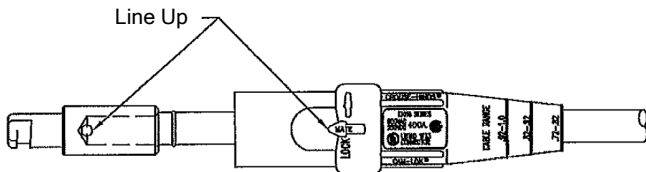

Figure 11
11. Line up the pin on the contact with the arrow on the Cam-Lok sleeve. See Figure 11.